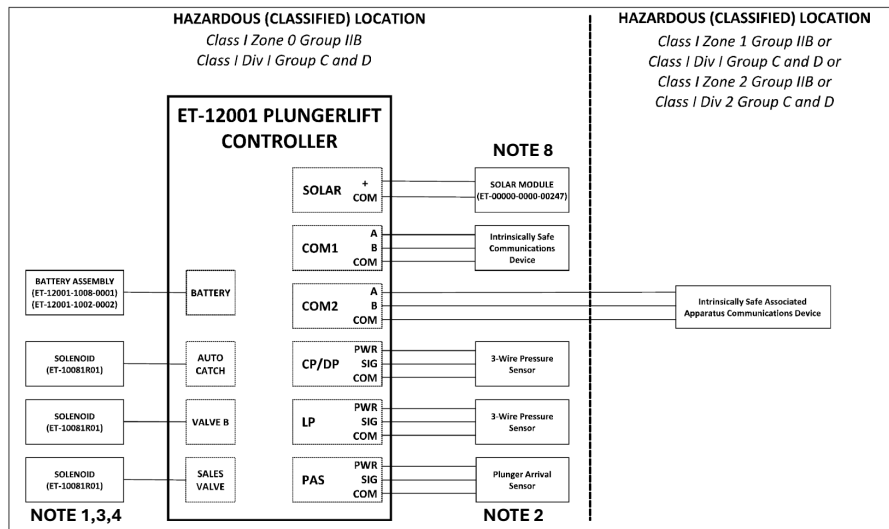
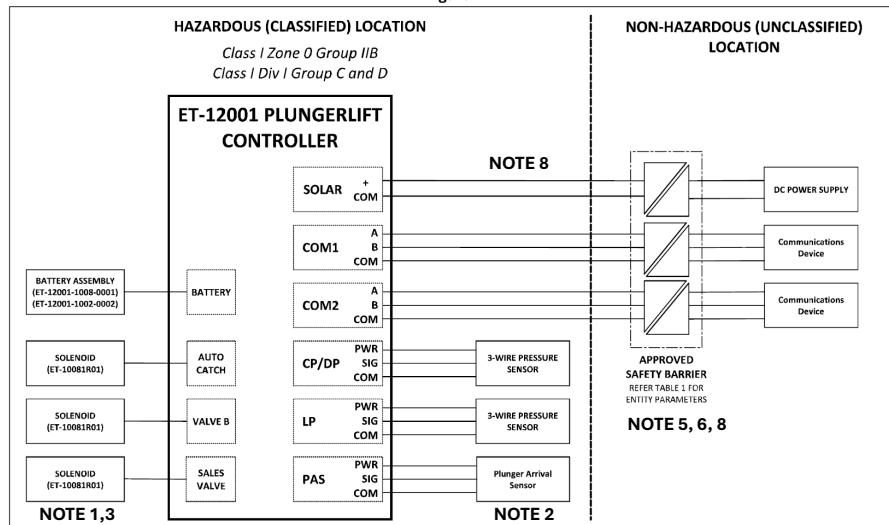

Figure 1
Figure 2
- A combination of connections per Figure 1 and Figure 2 is permitted if equipment installed is approved for use in the specific hazardous location where installed.